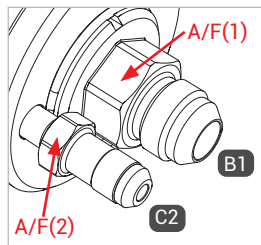

Figure 1
- ▶ When mounting the filling and venting hose, hold an open-ended wrench against the wrench size A/F(1) and A/F(2) (Figure 1).
- ▶ Screw the media inlet 'B1' pressure-tight onto the connection port of the filling hose (Figure 1). Please see the table below for the tightening torque.
- ▶ Screw the gas recirculation 'C2' pressure tight onto the connection port of the venting hose (Figure 1). Please see the table below for the tightening torque.